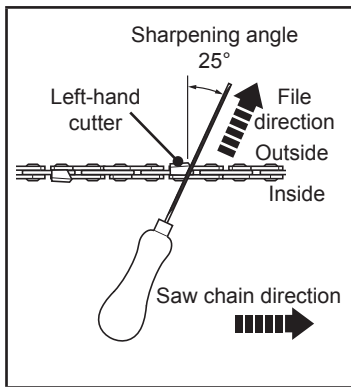

Fig. 41
- File at an angle perpendicular to the bar, and at an angle of 25° to the direction of travel (Fig. 41).